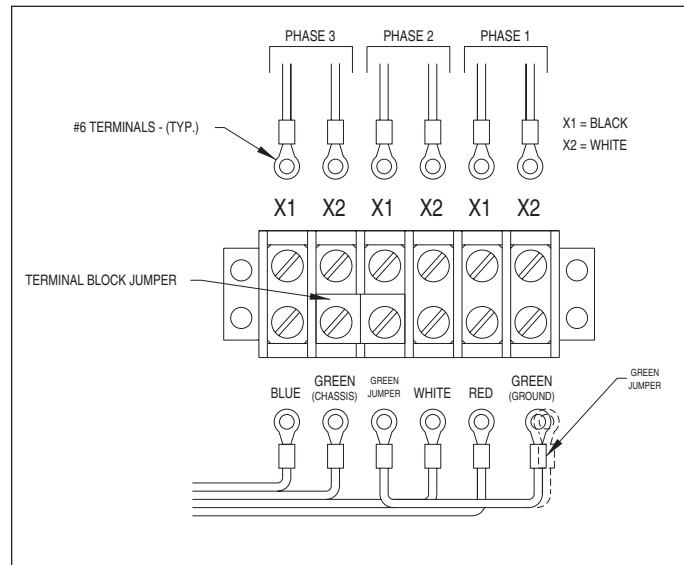

Fig. 6 Sensor Wires, Sensor Harness, and Terminal Block Jumper Connections at the 6-Point Terminal Block.
- J. Connect the Sensor Wires to the 6-Point Terminal as detailed in Figure 6.
- K. Connect the wires of the Sensor Harness to the 6-Point Terminal Block as detailed in Figure 6. Note that a Terminal Block Jumper must be used to connect the # 2 and # 3 bottom terminals.